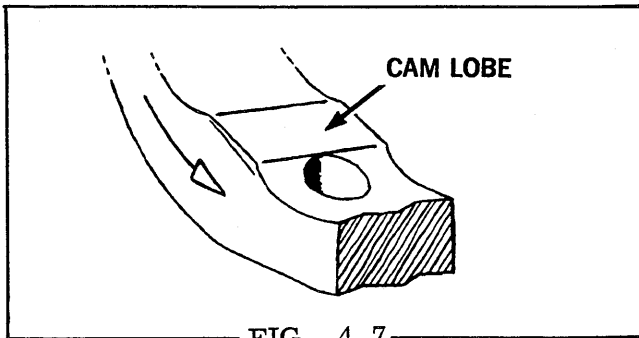

FIG. 4.7
8. Cam - Since only the working portions of the lobes on the inside diameter are ground, any tool marks between lobes should not be considered as damage. The mottled appearance of the cam is from heat treatment rather than from operation. Carefully inspect the cam lobes and edges of all flat surfaces. If there is evidence of spalling or flaking out, replace with a new cam. Improved cam lobe finish will result from long, normal operation in clean fuel oil (Fig. 4.7).